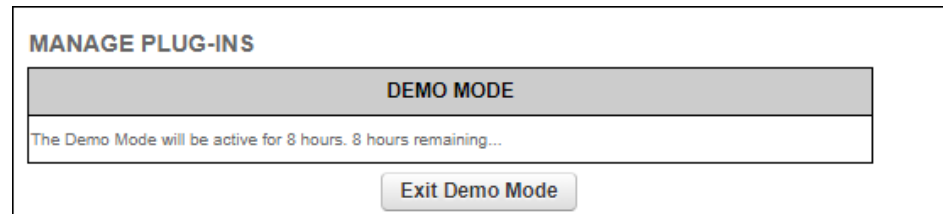

Figure 60. MANAGE PLUG-INS dialog (Demo Mode activated)
- The **Demo Mode** activation dialog will be shown (Figure 60 \(page 149\)). A countdown timer shows how much Demo time remains.